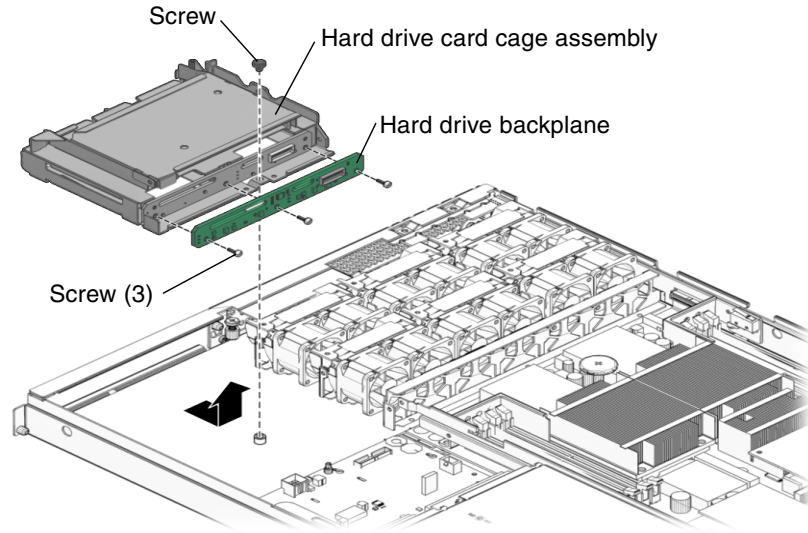

FIGURE 3-32 Removing the Hard Drive Backplane – Sun Fire V215
6. (Sun Fire V215) Remove the screw that secures the hard drive assembly and DVD super-multi drive to the chassis (FIGURE 3-32).
5. (Sun Fire V245) Use three screws to attach the hard drive backplane to the hard drive cage assembly (FIGURE 3-32).